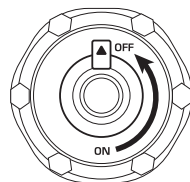

Fig. 4
6. After the generator stops, allow it to cool down and close the air vent on the fuel cap (set to «OFF», as shown in Fig. 4).